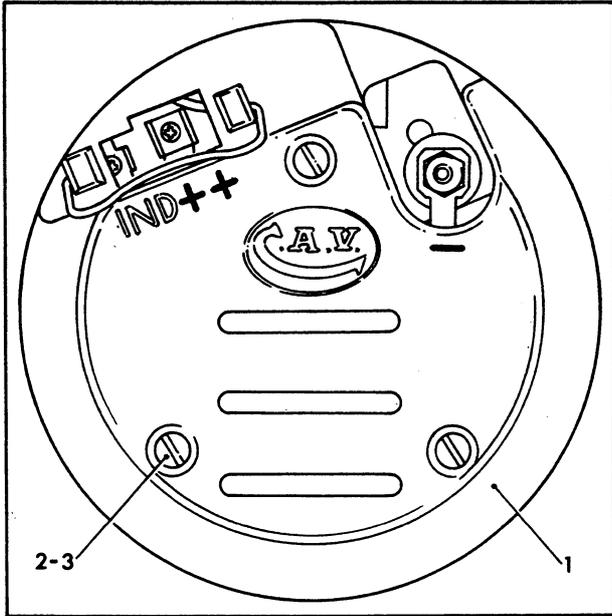

Fig 6 Protection cover
Assemble cover (1) Fig 6, and secure with washers and screws (2 & 3) and tighten to 1,4 to 1,7 Nm (12 to 15 lbf in).